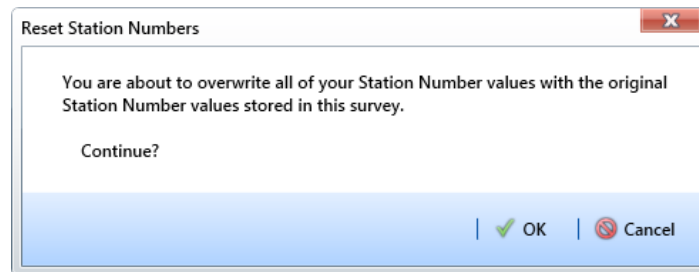

Figure 7-79. Reset Station Numbers
- 6 Click  **Apply**. When the *Reset Station Numbers* message displays, click  **OK** to reset all station numbers or  **Cancel** to cancel the operation (Figure 7-79).